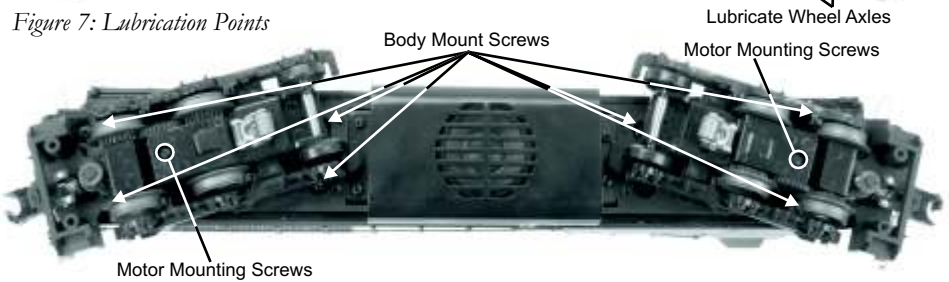

Figure 8: Body Removal Screw Locations and Motor Mounting Screws
1. To access the gear box, remove the cab from the chassis by unscrewing the body mount screws as seen in Figure 8 and lifting the cab from the chassis.
2. Once the cab is removed, remove the trucks by unscrewing the black Phillips motor mount screw located on the underside of the drive trucks (see Fig. 8).
First, remove the trucks from the chassis by unscrewing the body mounting screws as noted in Figure 8. Next, remove the trucks from the chassis by unscrewing the truck mounting screw also noted in Figure 8. Finally, turn the removed truck over and locate and remove the truckside screws to gain access to the drive wheel traction tires behind the trucksides.